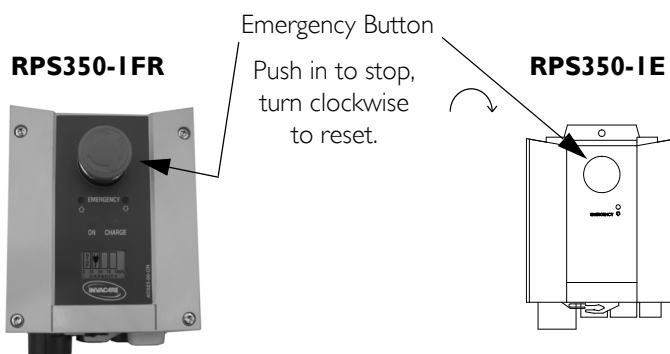

FIGURE 3.1 Operating the Patient Lift
- Refer to Detail "A" of Figure 3.1.